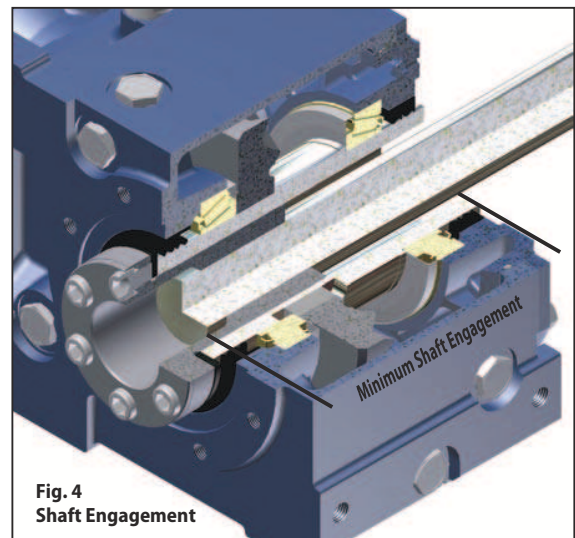
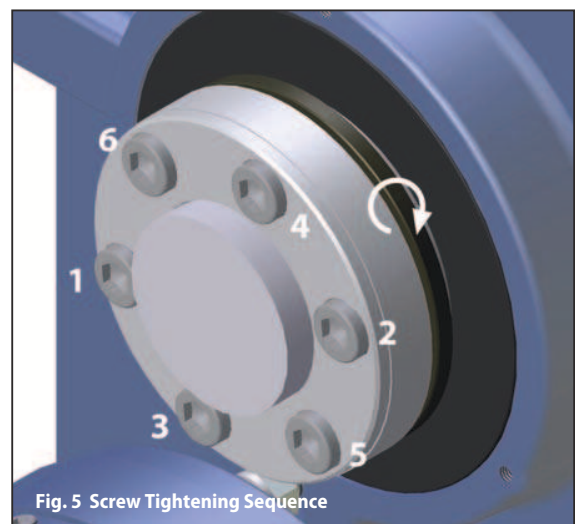

Fig. 4
Fig. 5 Screw Tightening Sequence
Step 6 – Position unit with the bushing flange located on the outboard side of the unit. Align the bushing with the driven shaft. Slide the unit onto the driven shaft as close to the driven shaft support bearing as possible. Ideally, the driven shaft should extend beyond the bushing flange face (see Fig. 5). Refer to Fig. 4 and Table 2 for minimum shaft engagement:
Step 7 – With a torque wrench, gradually tighten the capscrews to engage the bushing system. Use the appropriate tightening pattern (“star-pattern” see Fig. 5) to assure complete bushing engagement. Tighten each capscrew to the torque values shown in this table: